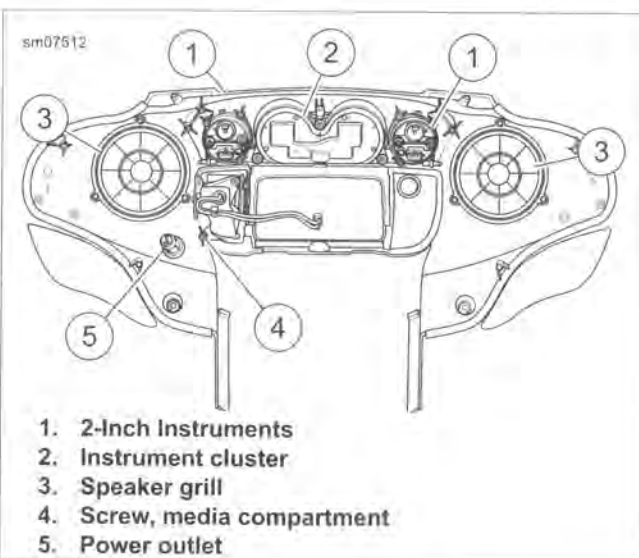

Figure 2-143. Support Structure Removed
- See Figure 2-143. Remove screws to release 2-inch gauges (1) and instrument cluster (2).
- Remove screws to release speaker grills (3).
- See Figure 2-143. Install power outlet (5). Tighten to 13-17 **in-lbs** (1.5-1.9 Nm).
- Verify media compartment door is open. Install media compartment. Tighten screw (4) to 8-12 **in-lbs** (1.0-1.3 Nm).
5. Install speaker grills (3) with arrows aligned with those on the inner fairing. Tighten to 9-13 **in-lbs** (1.0-1.5 Nm).
6. Install 2-inch gauges (1). Tighten to 8-12 **in-lbs** (1.0-1.3 Nm).
7. Install instrument cluster (2) using single screw at top. Tighten to 8-12 **in-lbs** (1.0-1.3 Nm).